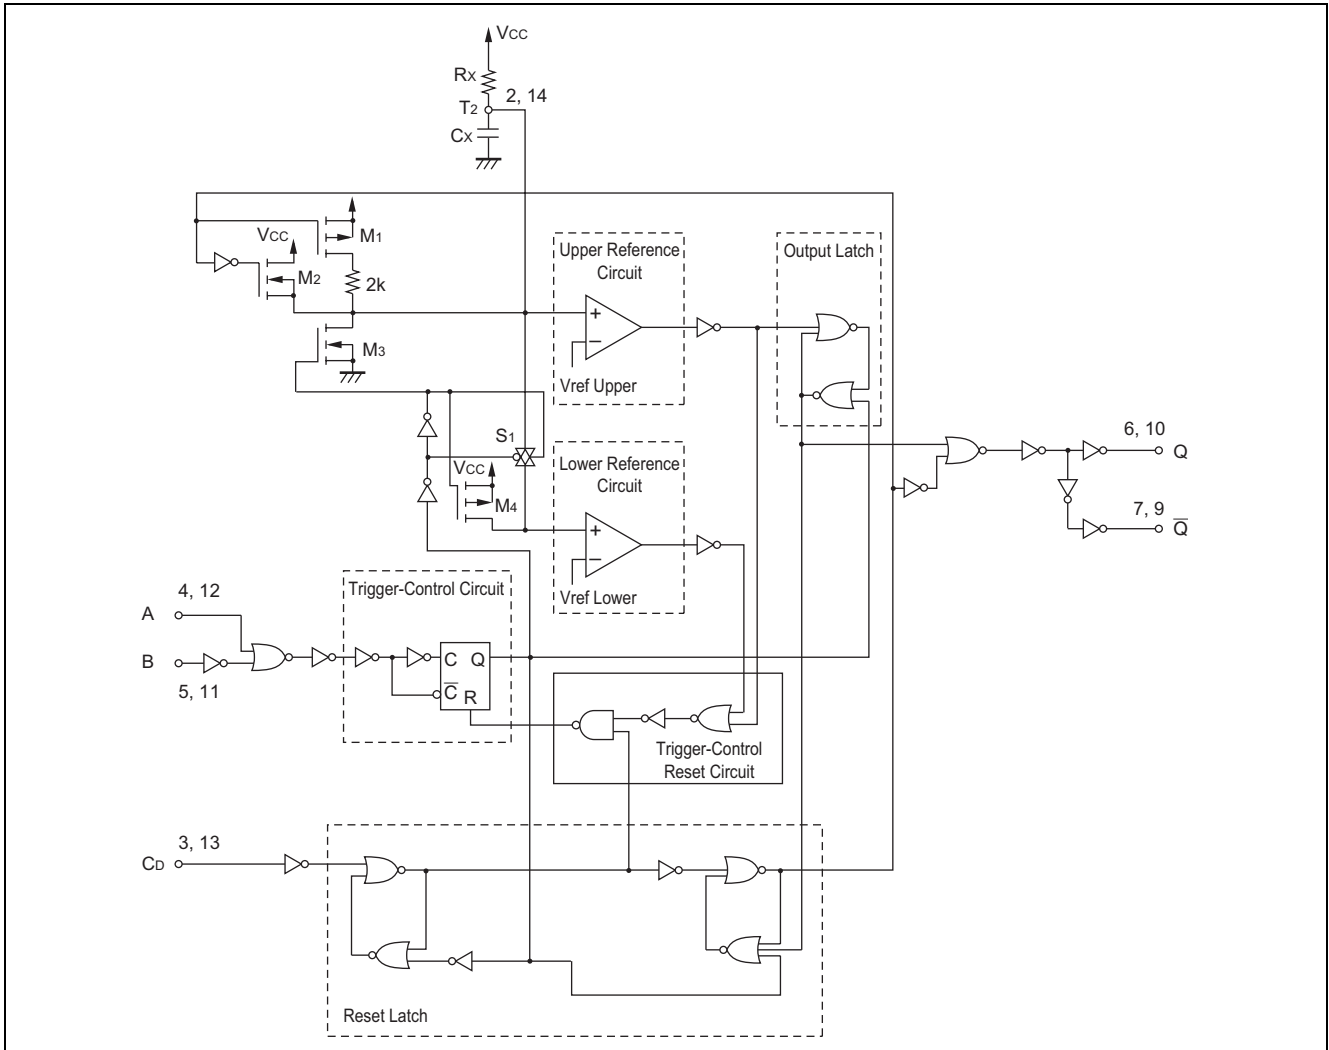
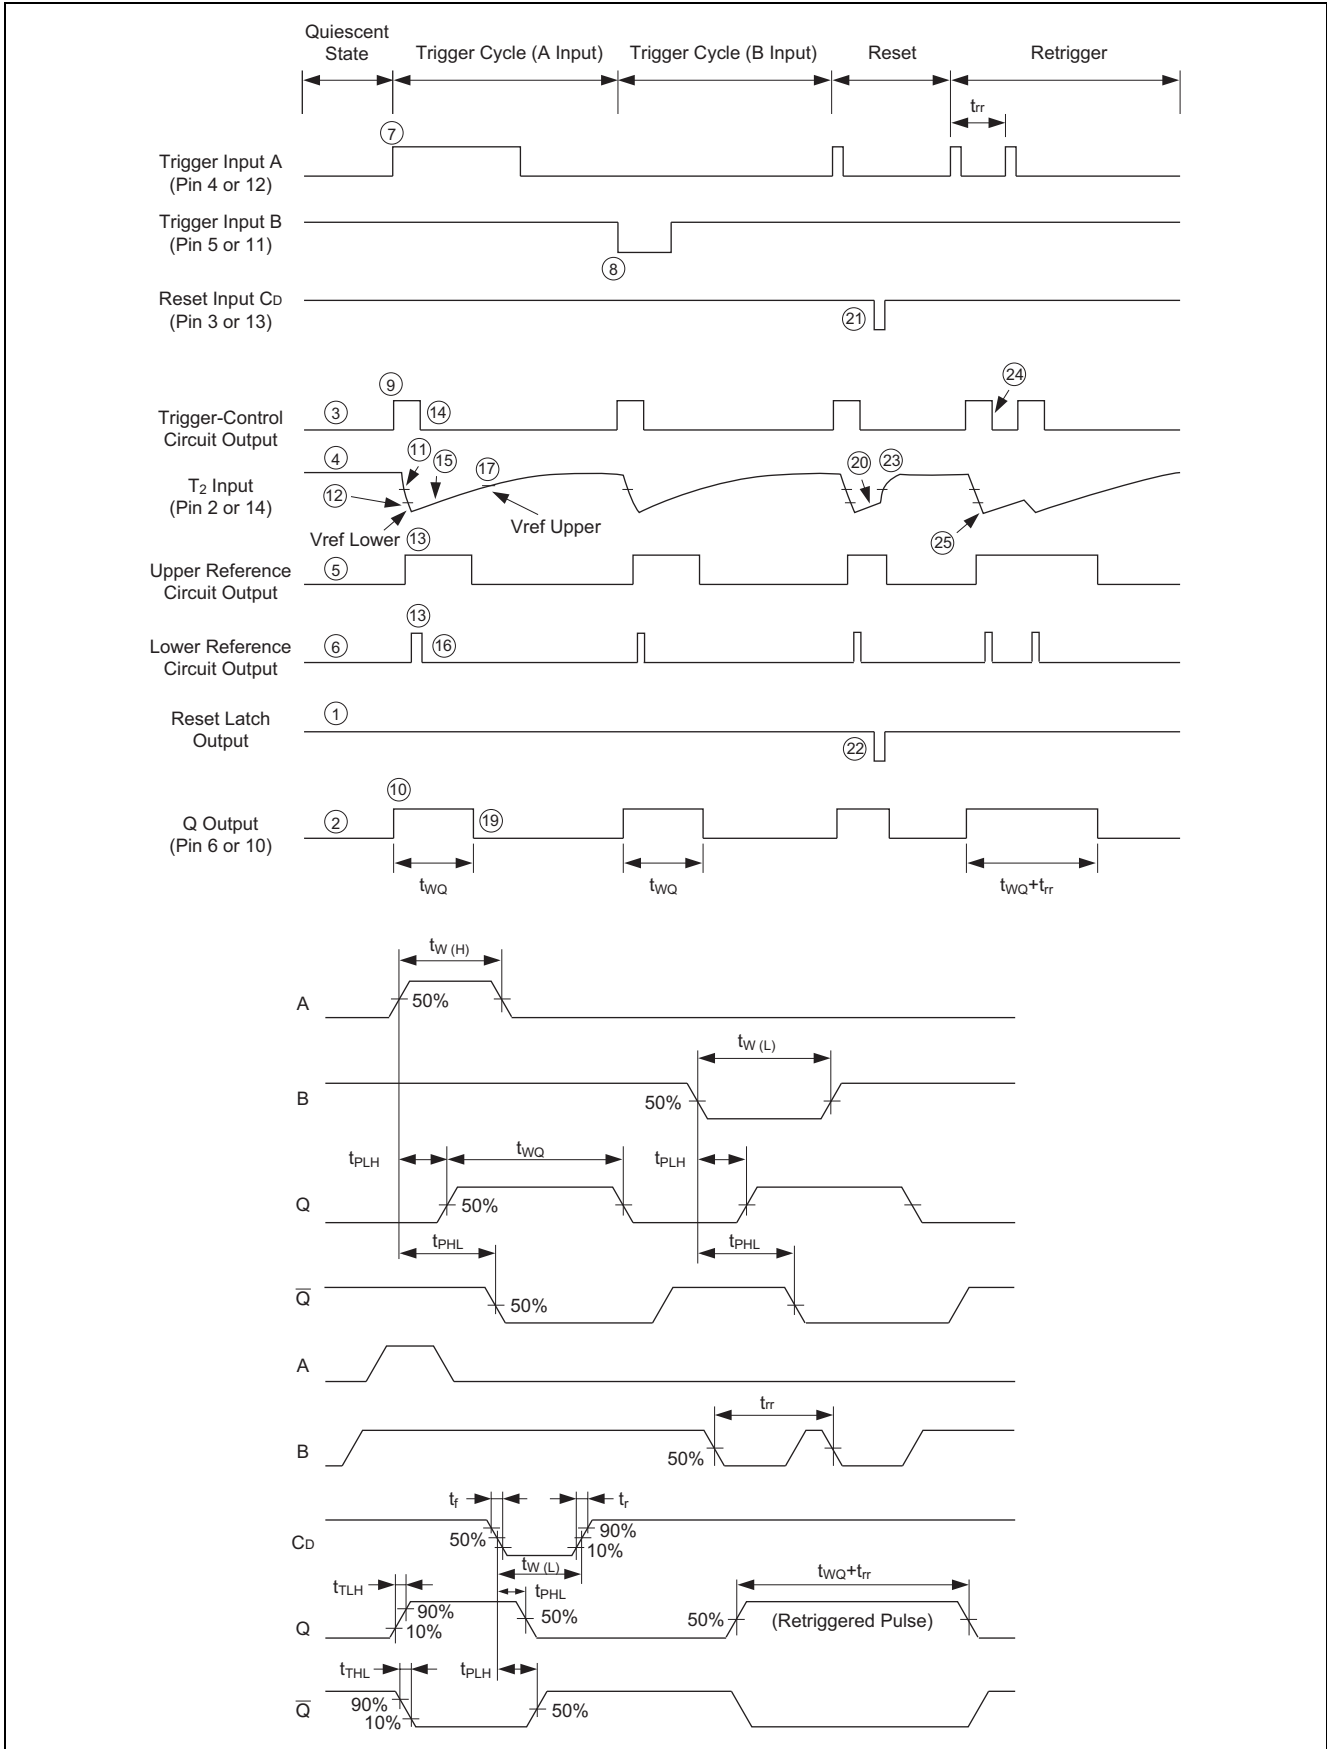
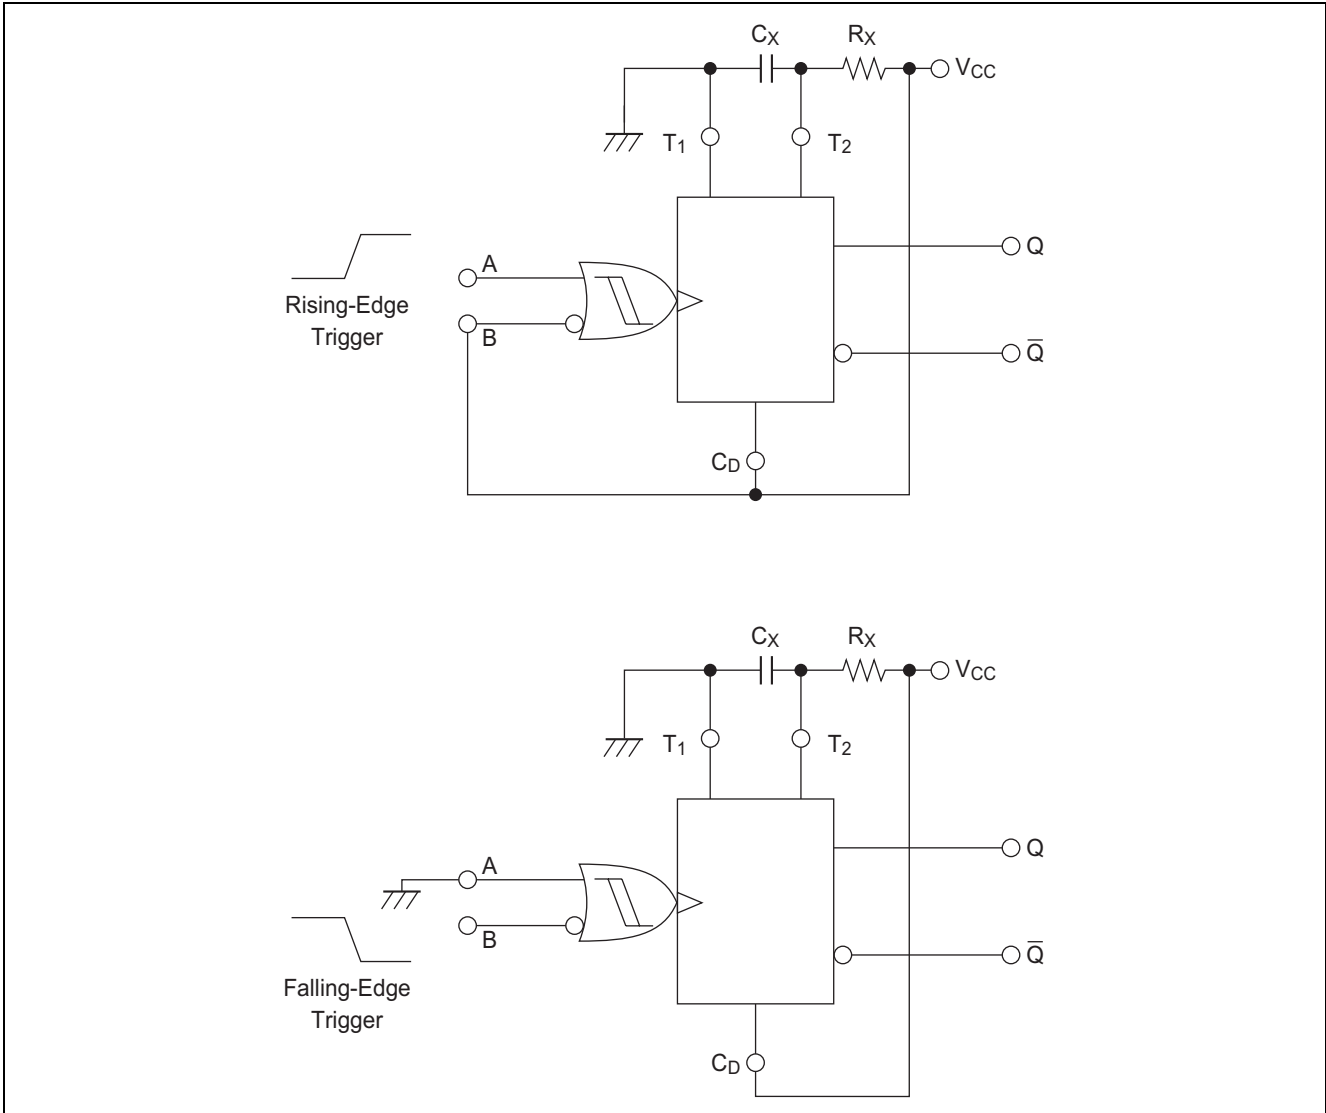

Figure 1. Function Diagram
Figure 2. Timing Diagram
Figure 3. Retriggerable Monostable Circuitry
Figure 3 shows the HC4538 configured in the retriggerable mode. Briefly, the device operates as follows (refer to figure 1): In the quiescent state, the external timing capacitor, C_X , is charged to V_{CC} . When a trigger occurs, the Q output goes high and C_X discharges quickly to the lower reference voltage ($V_{ref\ Lower} \approx 1/3 V_{CC}$). C_X then charges, through R_X , back up to the upper reference voltage ($V_{ref\ Upper} \approx 2/3 V_{CC}$), at which point the one-shot has timed out and the Q output goes low.
The following, more detailed description of the circuit operation refers to both the function diagram (figure 1) and the timing diagram (figure 2)
In the quiescent state, before an input trigger appears; the output latch is high and the reset latch is high (1 in figure 2). Thus the Q output (pin 6 or 10) of the monostable multivibrator is low (2 figure 2).
When used in the retriggerable mode (figure 3), the HC4538 may be retriggered during timing out of the output pulse at any time after the trigger-control circuit flip-flop has been reset (24). Because the trigger-control circuit flip-flop resets shortly after C_X has discharged to the reference voltage of the lower reference circuit (25), the minimum retrigger time, t_{tr} (Switching Waveform 1) is a function of internal propagation delays and the discharge time of C_X :